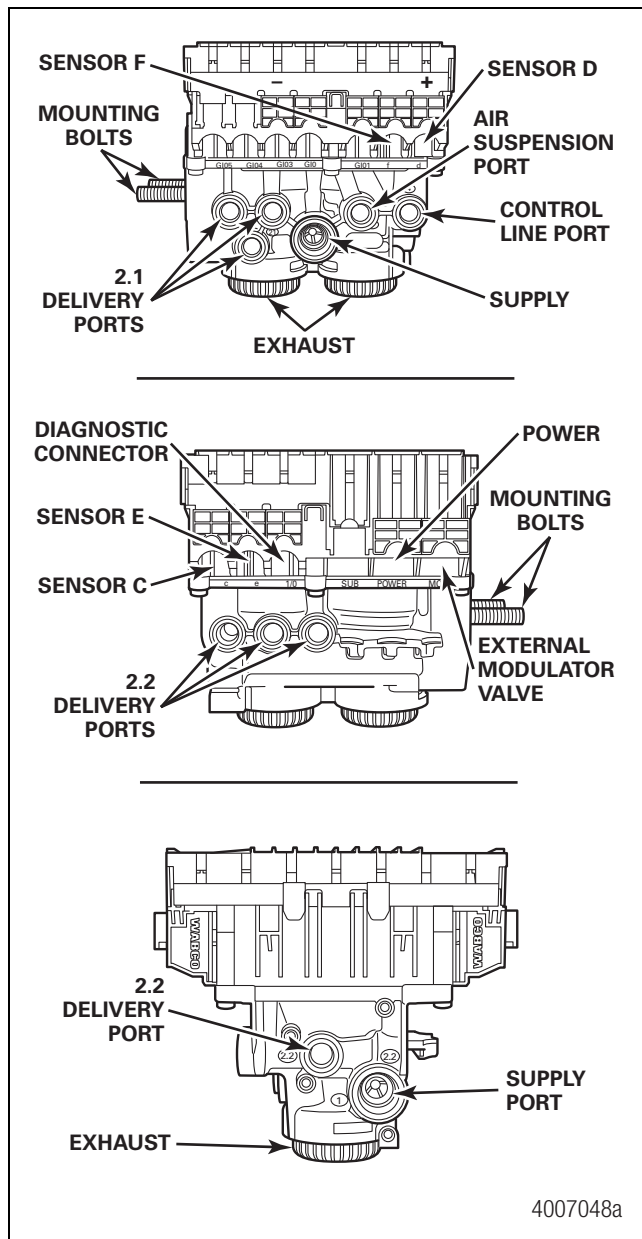

Figure 6.3
4. Disconnect the power cable, additional relay valve cable (if used), and all sensor cables from the ECU/Valve Assembly. Figure 6.3.
NOTE: When a sensor cable is not plugged into a sensor connector, the black cap must remain in the connector to protect it from dirt and contamination. Figure 6.3.
2. Connect air delivery lines to the ECU valve assembly. The ports labeled 2.1 and 2.2 are 3/8-inch NPTF. Refer to Figure 6.3 for ECU valve port assignments, and Section 4 for air line configuration.